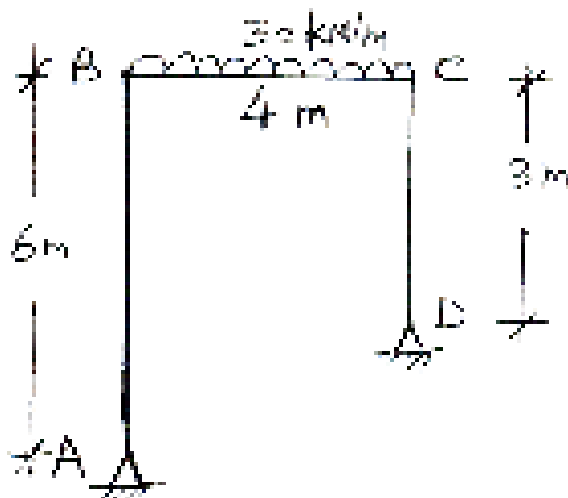

Fig. 6
- b) Determine the support reactions for the redundant plane frame loaded and supported as shown in Fig. 6. Assume constant EI for all members. Use Strain Energy Method.